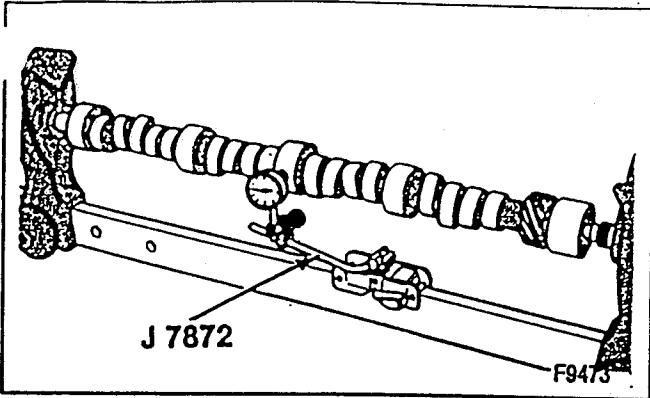

Figure 47—Measuring Camshaft Run-Out
Measure (Figures 47 and 48)
- Camshaft runout (figure 47). Mount the camshaft in V-blocks or between centers. Using J 7872, check the intermediate camshaft journal. If runout on 5.0/5.7L engines exceeds 0.0254 mm (0.002 inch) and on 7.4L engines 0.0635 mm (0.0025 inch), the camshaft is excessively bent and should be replaced along with the camshaft bearings.